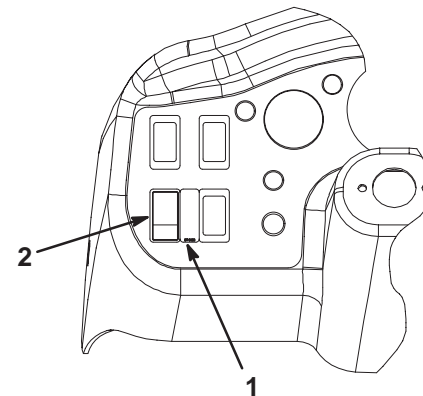

Figure 3
9. Affix the warning light switch decal to the right of the switch mounting hole in the dash (Fig. 3).
10. Insert the warning switch into the hole in the dash (Fig. 3).